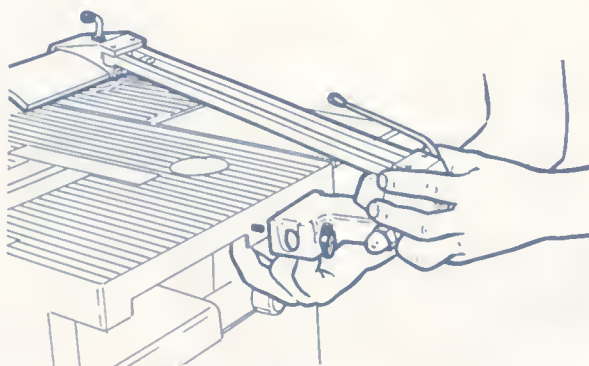
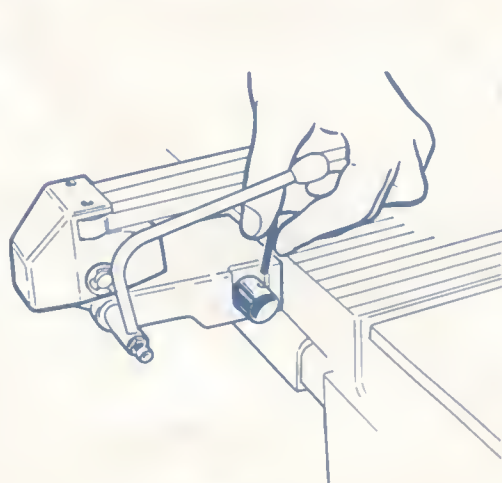
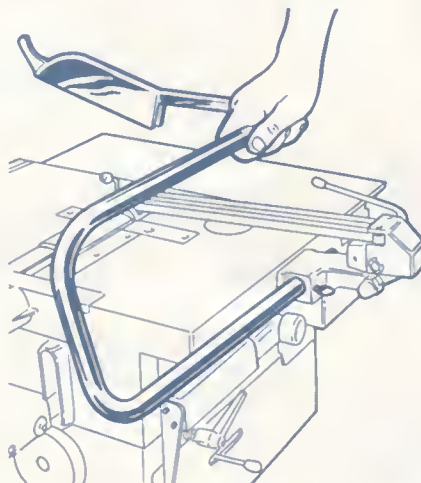

Fig. 76
Fig. 77
Fig. 78
1. For the special guard on the surfacing planer, just screw the support onto the side of the table (**Figure 76**). This guard can be moved both horizontally and vertically and you can swing it back out of the way when it is not needed.
2. The same support is also used for mounting the special guard on the circular saw (**Figure 76**). Insert the short end of the tubular mounting arm in the hole provided and tighten the locking handle (**Figure 77**). Mount the guard at the other end of the arm (**Figure 78**).